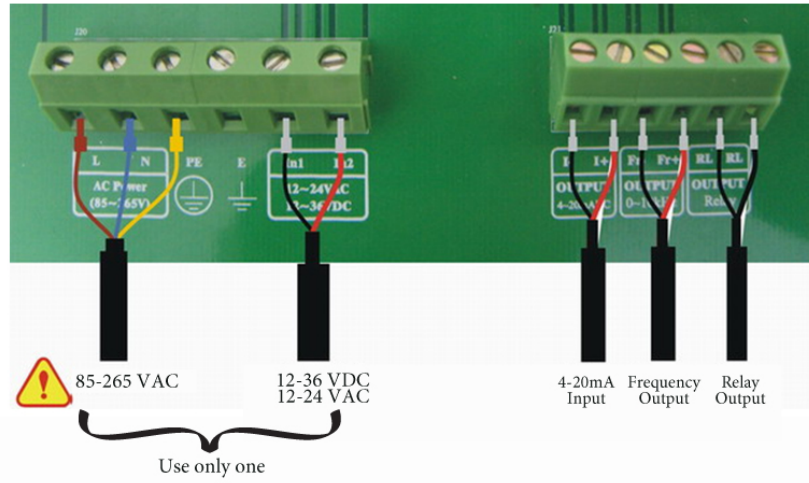

Fig.2.2-3
Step 2: Connecting the Power Supply (Fig.2.2-3)